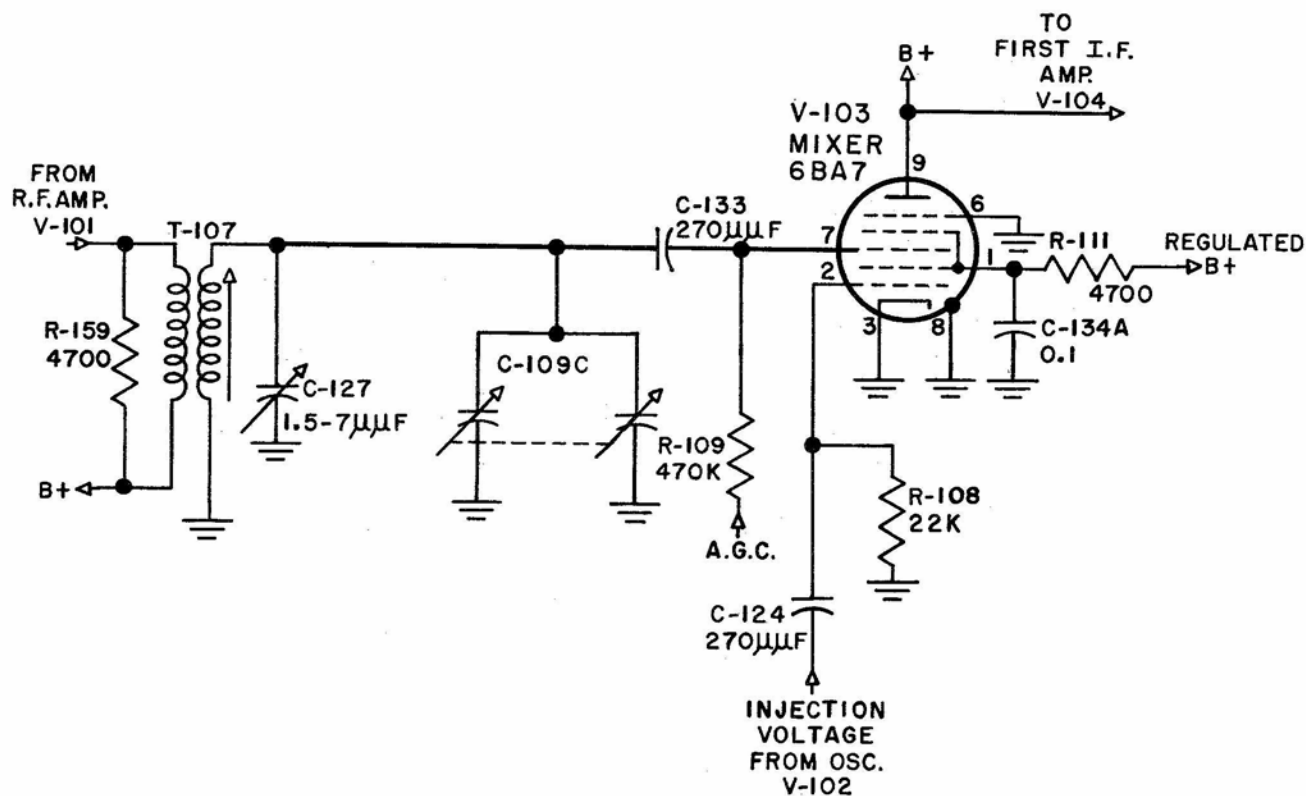

Figure 2-4. Mixer V-103, Simplified Schematic Diagram
d. MIXER V-103 CIRCUIT DETAILS. (See Figures 2-4 and 7-13).—V-103 is a type 6BA7 pentagrid converter used as the mixer tube. Incoming signal voltages, after amplification by R.F. amplifier V-101, are impressed across the primary of the mixer transformer, as selected by switch section S-101D. This switch has six main functions:
- (1) To connect the output of R.F. amplifier V-101 to the primary of the mixer transformer of the band in use.
- (2) To connect the secondary of the selected mixer transformer to the signal grid (pin 7) of mixer V-103 through coupling capacitor C-133.
- (3) To short out the unused mixer transformers.
- (4) To connect section C-109C of the Main Tuning capacitor to the selected mixer tuned circuit.
- (5) In the SW3 position of the Band Selector switch to connect only the larger stator of C-109C to the tuned circuit and to disconnect the smaller stator.
- (6) To connect B+ voltage to the plate of R.F. amplifier V-101.
The signal generated by H.F. Oscillator V-102 is 455 kilocycles higher in frequency than the incoming signal. This signal passes through coupling capacitor C-124 to the injection grid of V-103. The mixing of the oscillator signal with the incoming signal, applied at pin 7, produces a signal similar to the original incoming signal but at frequency of 455 kilocycles which is impressed across I.F. transformer Z-101. Figure 2-4 illustrates the mixer circuit with the Band Selector switch in the BC position. Resistor R-108 is the grid leak resistor for the oscillator injection grid of V-103 and C-134A is the screen bypass capacitor. Plate voltage is obtained through resistor R-113 and the primary of Z-101. (See Figure 7-13.) Regulated B+ voltage is supplied to the screen grids through resistor R-111. Automatic gain control voltage is applied to the signal grid of V-103 through isolating resistor R-109.